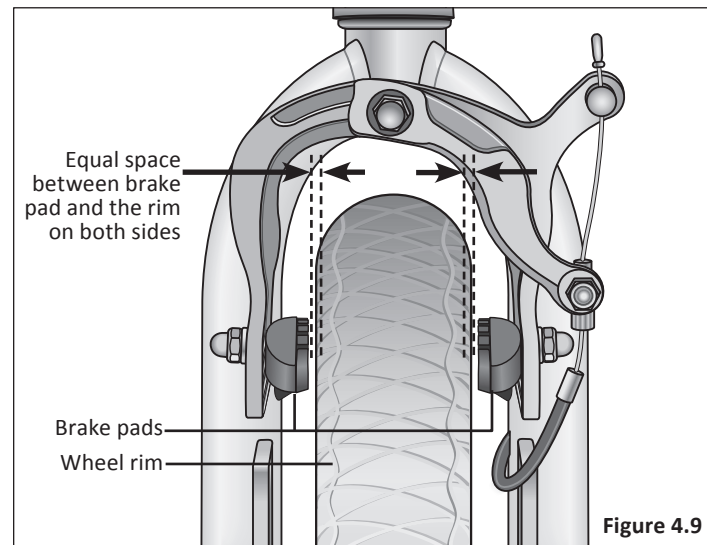

Figure 4.9
- The brake pads do not drag on the rim when the brake is open. **Figure 4.9**